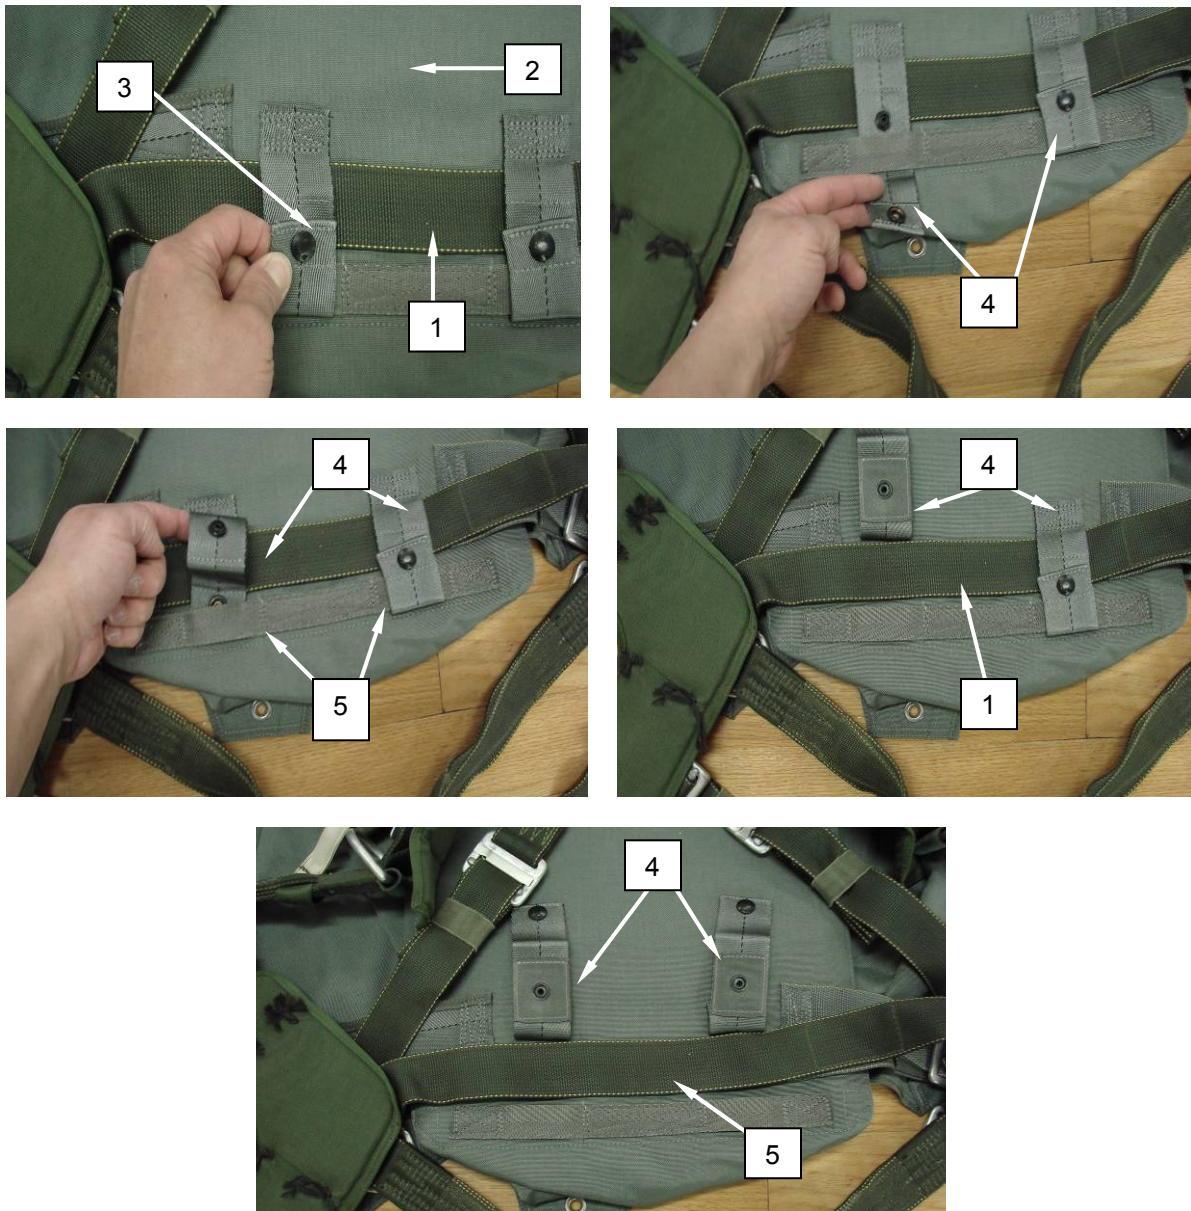

Figure 10. Removing Horizontal Back Strap from Main Pack Tray.
3. Remove the horizontal back strap (Figure 10, Item 1) from the main pack tray assembly (Figure 10, Item 2) by unsnapping the horizontal back strap retainer snap fasteners (Figure 10, Item 3). Remove the horizontal back strap retainers (Figure 10, Item 4) from behind the horizontal back keeper (Figure 10, Item 5). Remove harness assembly.